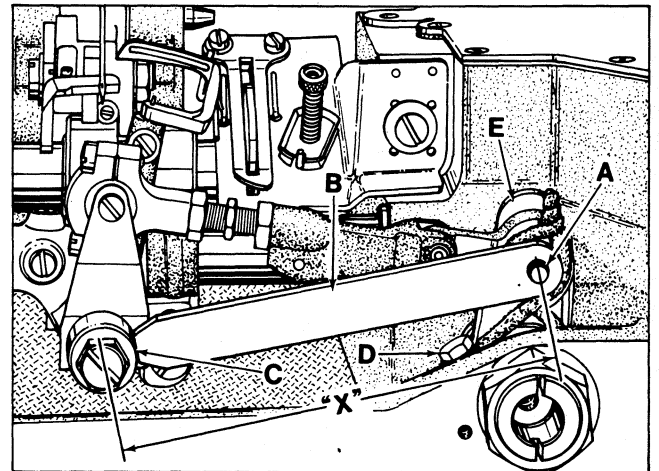

Fig. 6
With looper at extreme right end of its travel, check location of the centerline of right looper connecting rod bearing using gauge No. 21227 CX for all Classes except 56700 which uses gauge No. 21227 CX-56 for Style 56700 J-56 and No. 21227 CX-64 for Style 56700 J-64. Remove nut from looper lever stud (A, Fig. 6) and place hole in gauge (B) over threaded stud. The left end of gauge should locate against the RIGHT side of looper rocker cone (C). If adjustment is necessary, loosen clamp screw (D), reposition looper drive lever (E) as required and retighten screw (D). If gauge is not available, setting can be checked with a scale. "X" dimension is from centerline of stud (A) to centerline of cone (C) which should be 4 1/16 inch (103.2mm) for all Classes except 56700. Style 56700 J-56 should be a 3 5/8 inch (92.1mm) and Style 56700 J-64 should be 3 9/16 inch (90.6mm) with looper at extreme right end of travel.